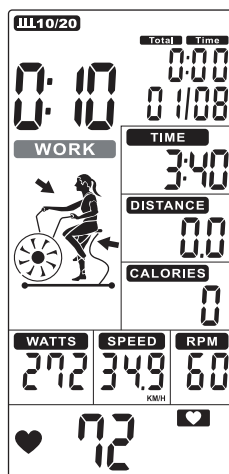

FIGURE 29
- The cycle time counts down from 10 to 0 and the word WORK flashes once per second. Meanwhile, the Display shows a 4 minute rotation and countdown animation. Then, TIME (DISPLAY 3), DISTANCE (DISPLAY 4), CALORIES (DISPLAY 5), WATTS (DISPLAY 6), SPEED (DISPLAY 2) AND RPM (DISPLAY 1) start counting, the display will show '01/08' (Figure 29).